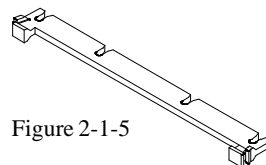

Figure 2-1-5
- HSS Top Bar (HSSTOP) - Plastic bar that clips onto the HSSBASE through the fins on the ATX heat sink. (Refer to Figure 2-1-5)